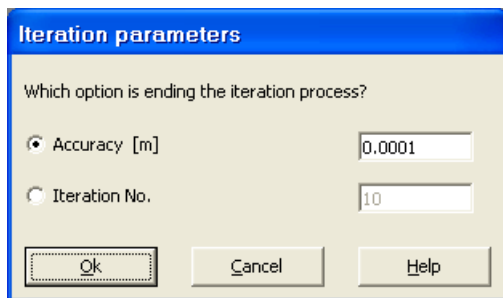

Figure 13-44 "Iteration parameters" option box
- Choose "Computation of all" command from "Calculation" menu in *ELPLA-Solver* window. The following "Iteration parameters" option box in Figure 13-44 appears